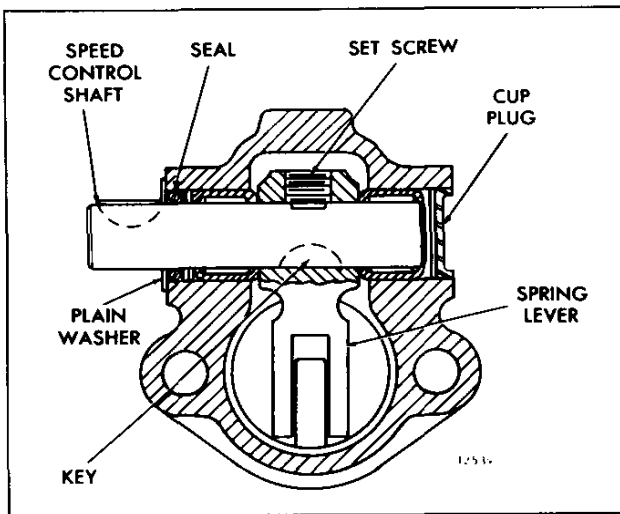

Fig. 7 - Governor Variable Speed Spring Housing
1. Lubricate the speed control lever shaft needle bearings with Shell Alvania No. 2 grease, or equivalent. Then, start one of the bearings, numbered end up, straight in the bearing bore in the right-hand side of the spring housing as viewed in Fig. 7.